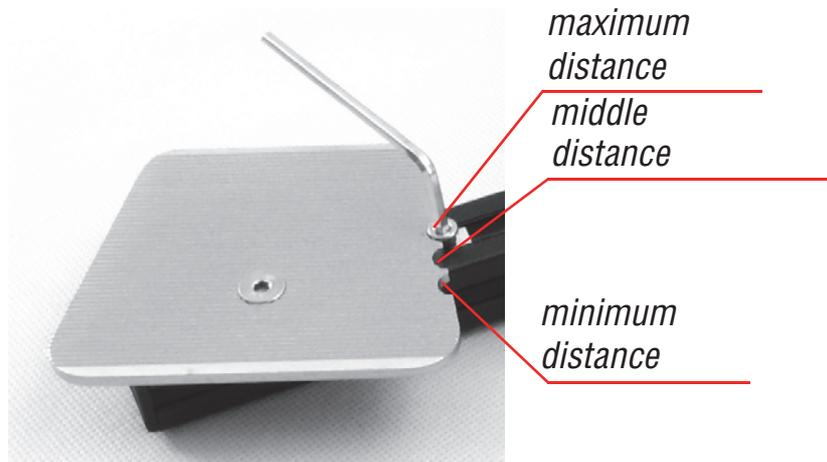

Fig. 2.16.
- 6.3. Choose one of the notches on the side edge of the foot bearing in a correspondense of your foot size and thus the distance between fot bearing and the support shaft (fig. 2.16).